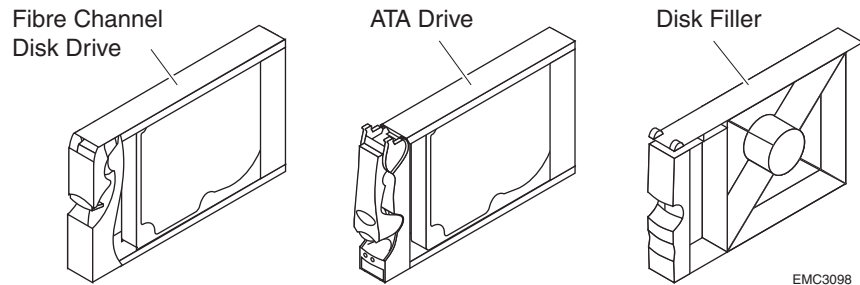

Figure 3-4 Disk Module Comparison
- ◆ Do not mix Fibre Channel and ATA components in the same enclosure. Refer to Figure 3-4 for a visual comparison of FC and ATA disk carriers.